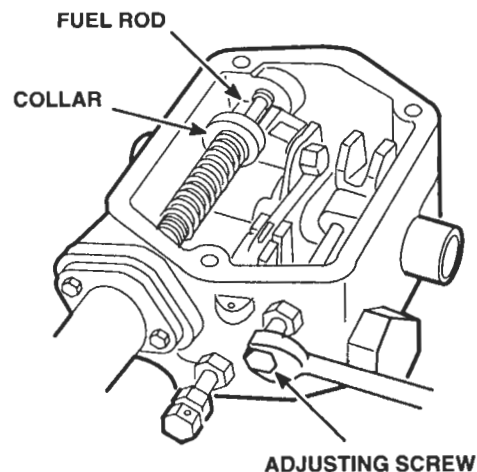

Figure 3. Setting Maximum Fuel Adjusting Screw (Load Limit)
1. Place fuel rod and terminal lever in the full-fuel position (Figure 3.)